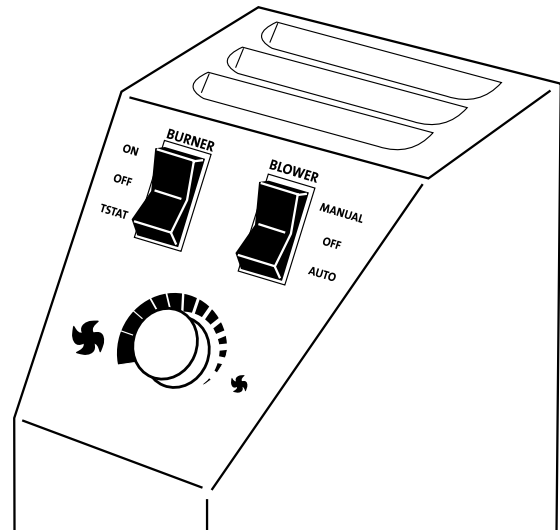

Figure 40. Burner Switch and Optional Blower Controls
- Once the pilot is lit, burner operation is controlled by the rocker switch located at the left rear corner of the stove. Use the T-STAT position for the optional thermo-static or remote control functions. See fig. 40.